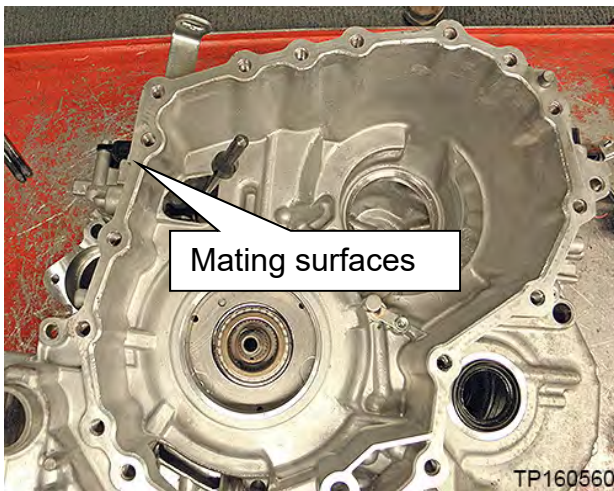

Figure 82
- Re-install all six (6) original bolts into the old sub-assembly.
65. Thoroughly clean the mating surfaces of the CVT case (Figure 82) that the sub-assembly was just separated from (a plastic scraper can be used).